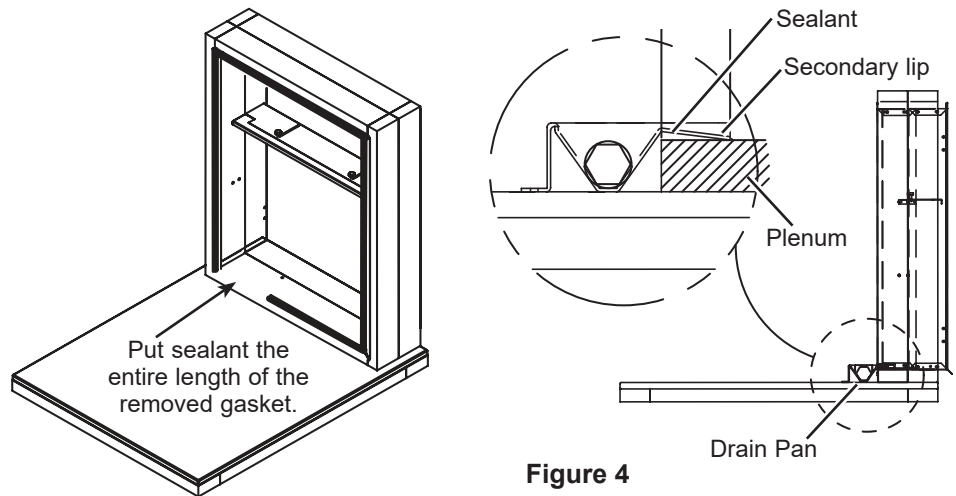

Figure 4
The drain pan should be mounted flush against the 3/4" flange of the plenum (Figure 4).
**NOTE:** The secondary overflow lip (Figure 4) must extend into the plenum to prevent water leaks.